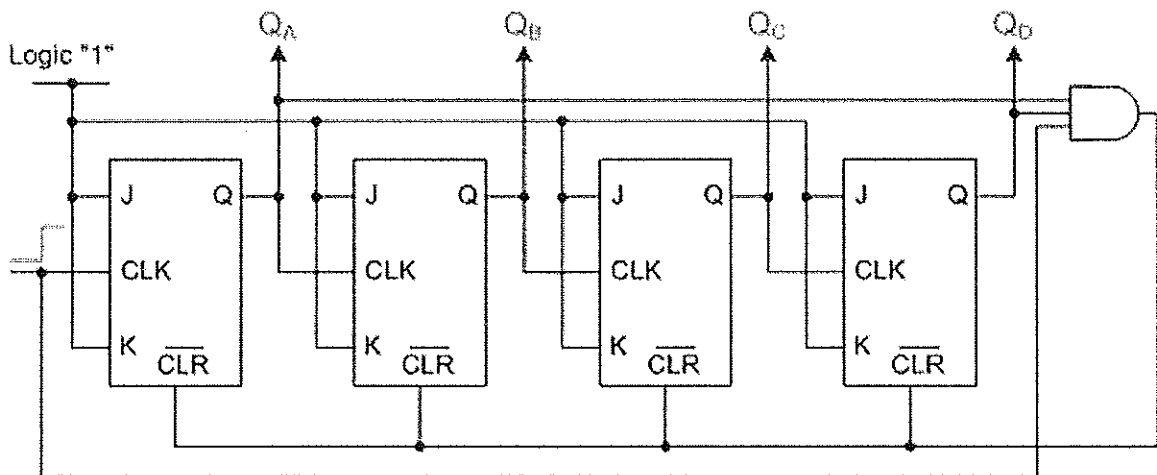

Figure 3(a)
- (a) Table 3(a) show a portion of a dual positive edge-triggered JK flip-flops (DM7476) datasheet. Figure 3(a) show the logic circuit diagram of an asynchronous counter which uses positive edge-triggered JK flip-flops with labelling of $Q_AQ_BQ_CQ_D$ where Q_D is MSB and Q_A is LSB. Assume the environment is at $T_A = 25^\circ\text{C}$ with $V_{CC} = 5\text{V}$.
- (iii) Show the output timing diagram of Figure 3(a) and state the function of this counter. (5 marks)